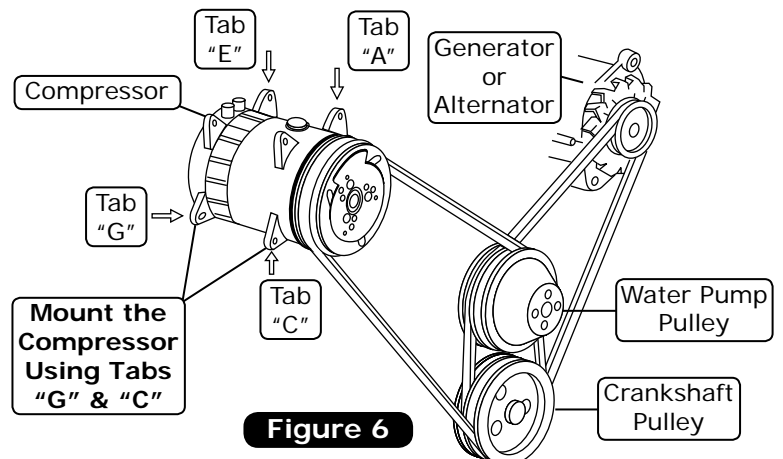

Figure 6
1. Refer to separate instructions included with the bracket kit to install the compressor bracket. Refer to Figure 6, below, for compressor mounting position.
1. In most instances, existing belt lengths will remain the same (See Figure 6, below). **NOTE: Belt routing may vary with different bracket sets. Always refer to instructions included with brackets.**